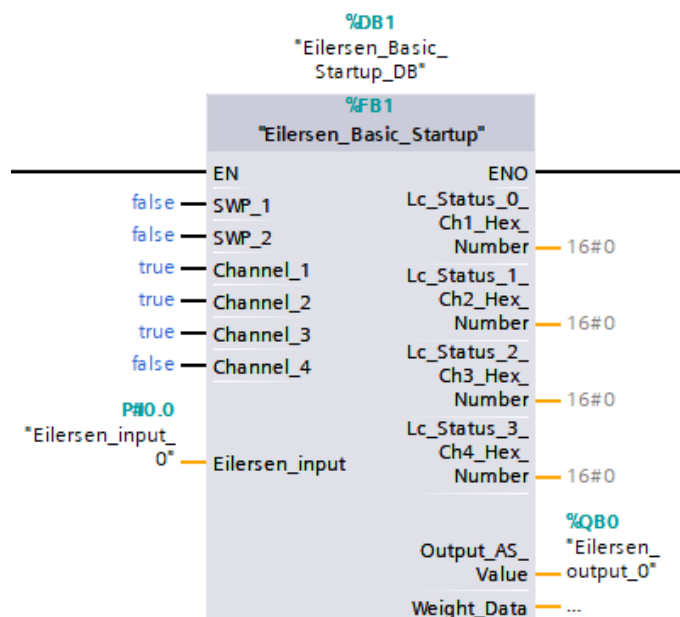

Figure 4 - Function Block
This section describes the required tags on the Function Block (FB) as seen on Figure 4.